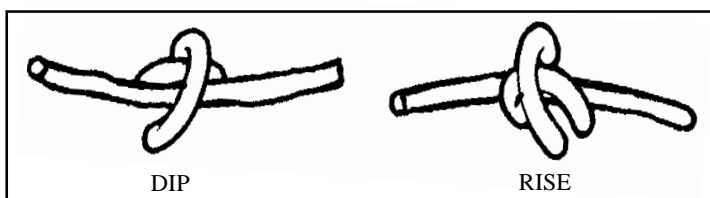

Figure 3.
The second method consists of driving a staple parallel to the wire. On dip posts the staple is driven above the wire so that the wire pushes up on the staple. A second staple is then driven over both the wire and first staple (figure 3). The procedure is identical for rise posts except the first staple is driven below the fence wire. (DJ)